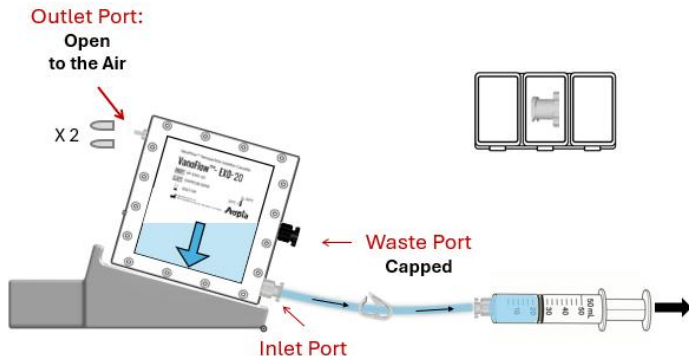

Figure 5 - Storage buffer removal
- Remove **All** the silicone caps (x2) from the cassette while keeping the Waste Port capped. Connect a syringe to the Inlet Port and draw the cassette storage buffer from the cassette, as shown in Figure 5.